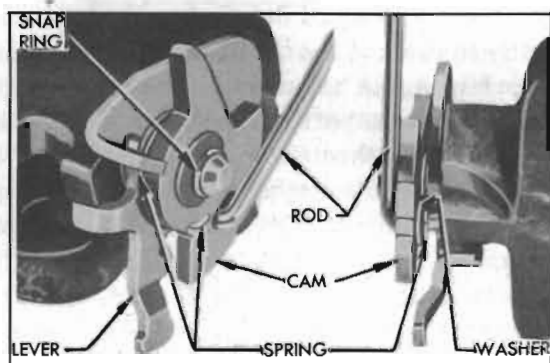

Figure 3-76—Lock Lever, Fast Idle Cam and Rod
rel; also scribe lines on each valve along both edges of the valve stem. See figure 3-76. After marking the parts remove screws and slide valves out of stem.
1. Attach fast idle rod to fast idle cam with washer and hook the cam spring into groove in rod. Install spacer washer, loose lever lock lever, and fast idle cam on post in throttle body, then install snap ring in groove in post. See figure 3-76.